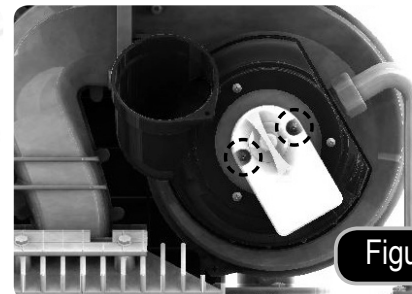

Figure 4
5. Loosen 2 screws to remove AGM. Separate AGM motor from AGM plate. See Figure 4.